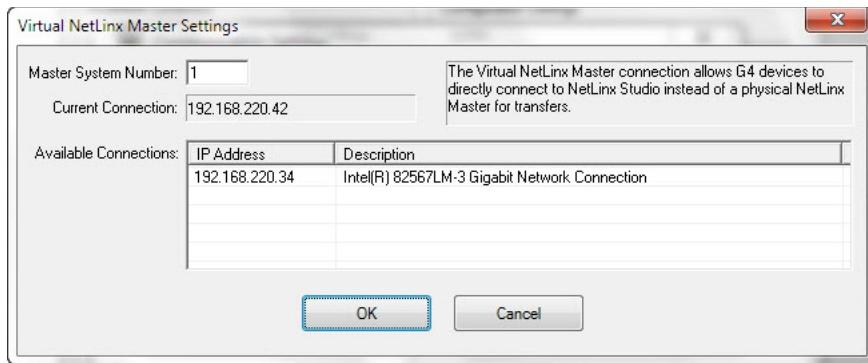

FIG. 31 Virtual NetLinx Master Settings
- Click the **Edit Settings** button on the *Communications Settings* dialog to open the *Virtual NetLinx Master Settings* dialog (FIG. 31).